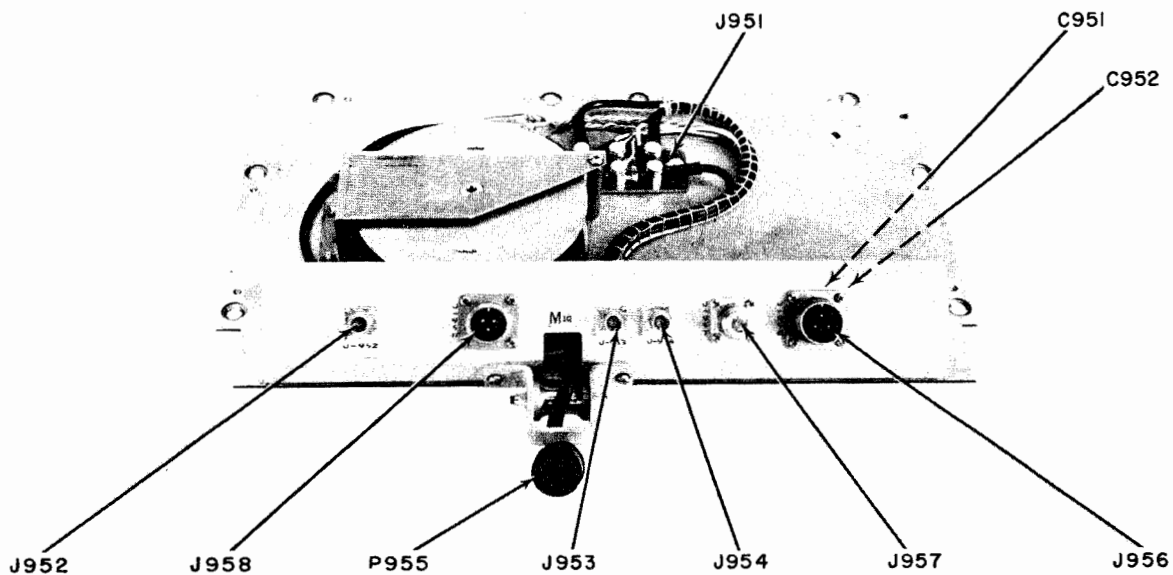

Figure 5-78. Converter Blister, Location of Parts
b. ACCESS.—The converter blister is located at the back of the converter cabinet. For access, pull out the converter drawer all the way. Reel E951 in the blister pays out the ac power cable as the drawer is withdrawn, but signal connections are broken. To restore them, connect patch cable W624 between the blister and drawer connection blocks. Figure 5-78 shows the location of parts of the converter blister.